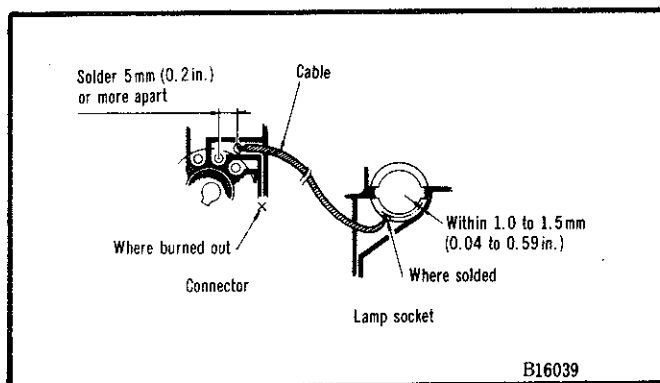

Fig. 26—Soldering printed circuit
- (1) Trace both ends of the burnt circuit.
- (2) Clean the places to be soldered by rubbing lightly with a fine sand paper.
- (3) Cut off any turned over copper strip, if any, and bond the cut ends to the board.
- (4) Solder a 0,5 mm² insulated cable between the burnt circuit as shown in Fig. 26.
- (5) Insulate the soldered connections with lacquer or a similar material.